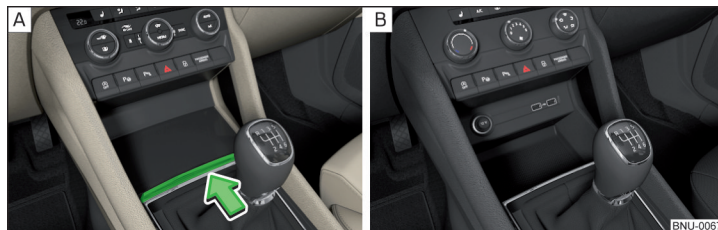

Fig. 104 Opening storage compartment/ non-lockable storage compartment
- To **open**, press the ridge in the direction of arrow » Fig. 104 - **A**.
Certain models do not have a storage compartment lid » Fig. 104 - **B**.